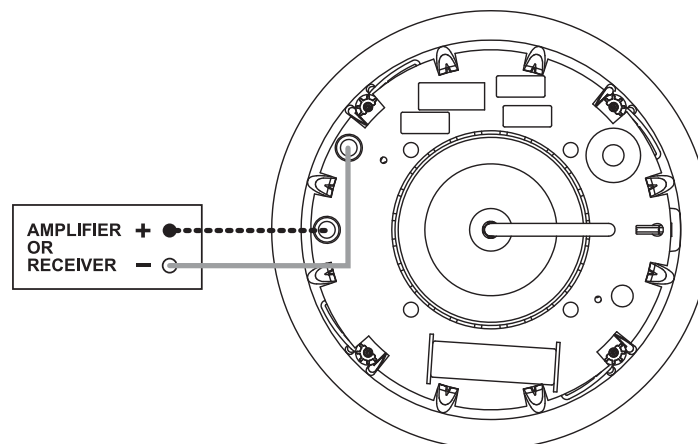

Figure 3
- Hold the speaker up to the cutout and connect the speaker cables. Proper polarity (or phase) is critical for proper stereo imaging and bass performance. Connect the red(+) terminal of your receiver or amplifier to the red(+) terminals of the Invisa loudspeaker and the black(-) terminal of your receiver or amplifier to the black(-) terminal of the Invisa loudspeaker. (See Figure 3). Most speaker cables are either color coded or have some indicator (ribbing or writing) on one of the conductors to help maintain this consistent polarity. It is essential that all speakers be connected in the same way (in phase) to its own channel of the amplifier. If you experience a great lack of bass, it is likely that one speaker is out of phase(+ and – reversed) with the other.